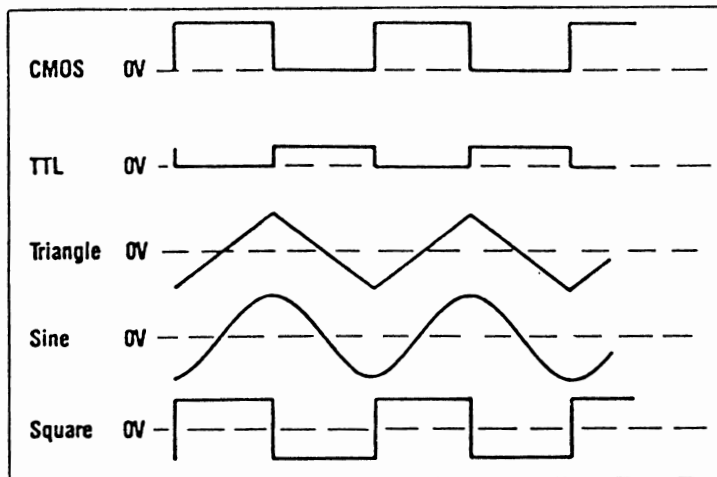

Fig. 1. Output Waveform And Phase Relationship.
- d. Select the waveform desired (square, triangle, or sine) by depressing the appropriate FUNCTION switch. The phase relationships of the waveforms available are shown in Fig. 1. Be sure that the DUTY control is set to CAL.